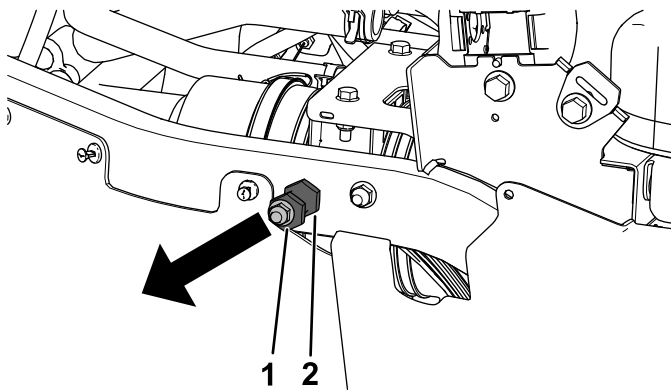

Figure 11
4. Remove the locknut (3/8 inch) and latch pin from the right and left, rear frame tubes (Figure 11).